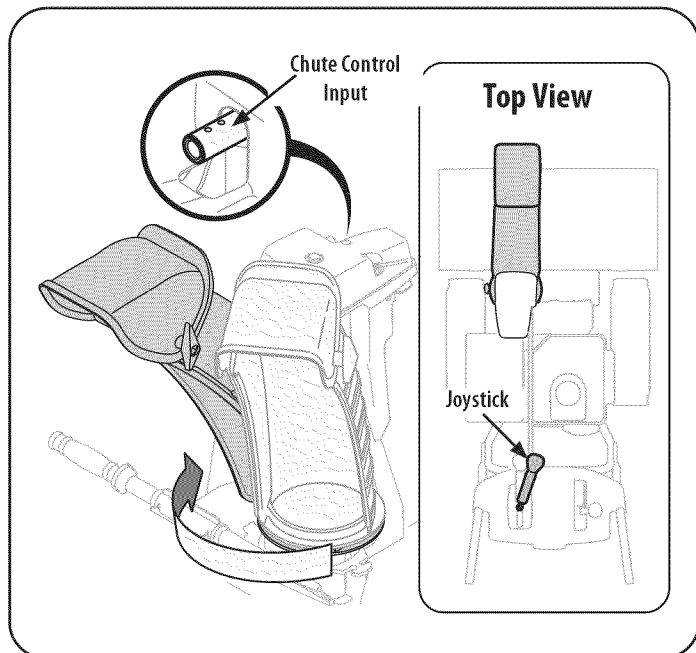
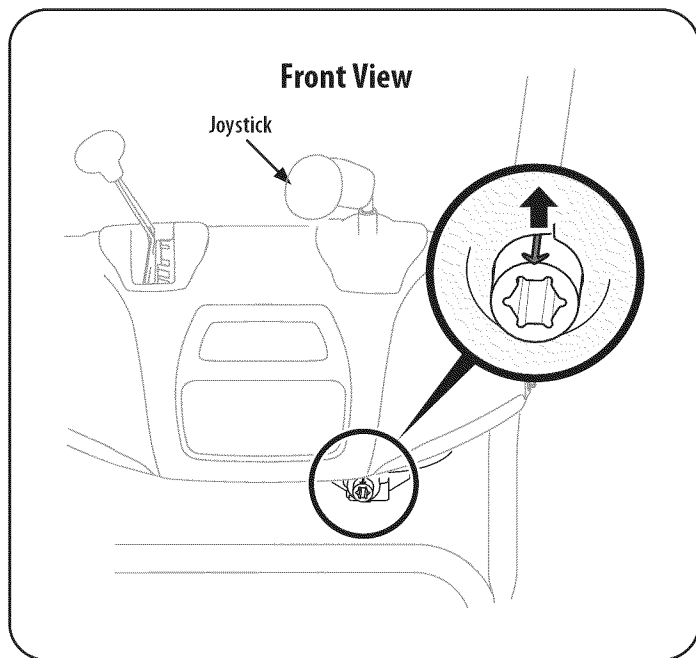

Figure 5
Figure 6
- Squeeze the trigger on the handle panel joystick and rotate the chute by hand to face forward. The holes in the chute control input will be facing up. See Figure 5.
- Rotate the joystick to the one o'clock position so the silver indicator arrow on the input shaft below the control panel points upward. See Figure 6.
**NOTE:** The joystick will be angled slightly to the right. See Figure 5 & Figure 6.